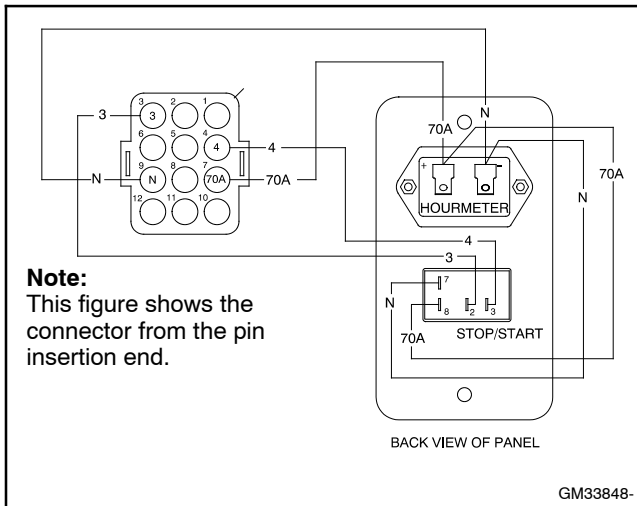
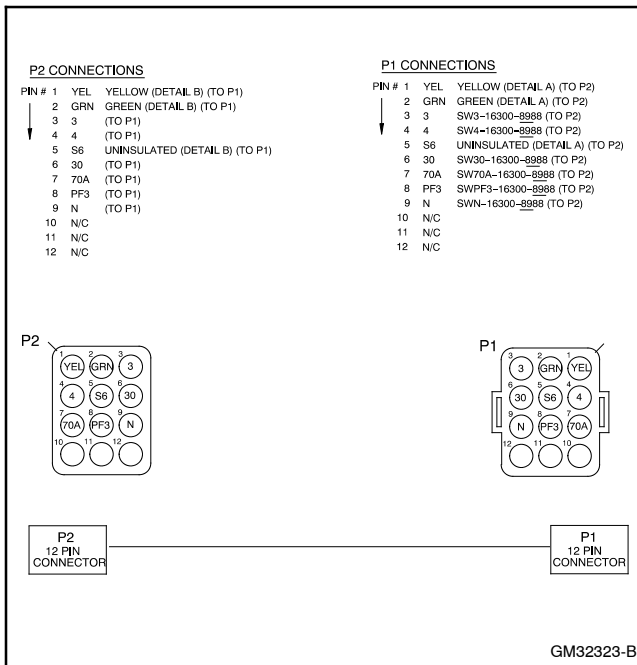

Figure 4 Remote Start Panel's Electrical Connections
Figure 5 Remote Extension Harness (15- or 25-Ft.)
2.3 Connect the remote start panel connector or the remote extension harness, if used, to the generator set's customer-interface connector (12-pin connector). See Figure 4 and Figure 5.